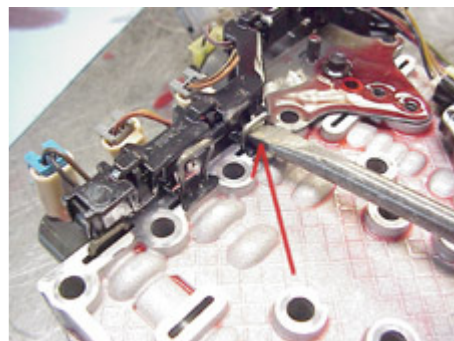

Figure 2: Removal of solenoid retaining clips
- 5) Remove the (2) two-solenoid retainer clips that attach the internal wiring harness to the valve body, use a flat blade screwdriver to pry the retaining clips out of the valve body, hold your hand over the clips when removing them so that they do not pop out or grab them with a pair of pliers and pull them out (Figure 2). Place the two retaining clips aside for later.